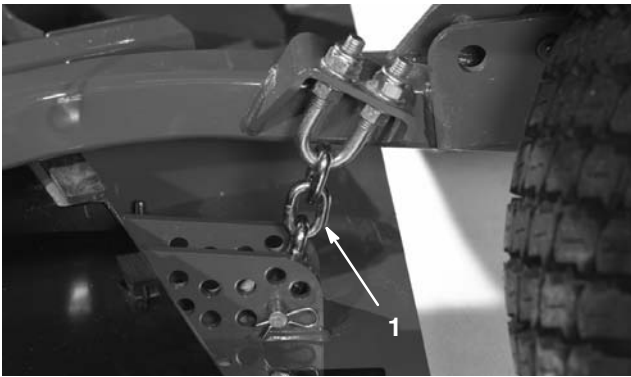

Figure 76
3. Remove the hairpin cotter and clevis pin securing the height-of-cut chains to the rear of the cutting unit (Fig. 76).